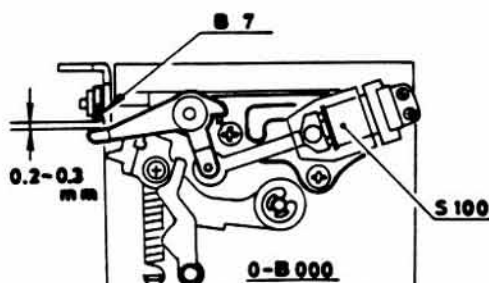

Fig. 32
* Install Release magnet (S100) so that the clearance between Hook lever (B7) and the lever of Release magnet becomes 0.2 ~ 0.3mm as shown in Fig. 32.